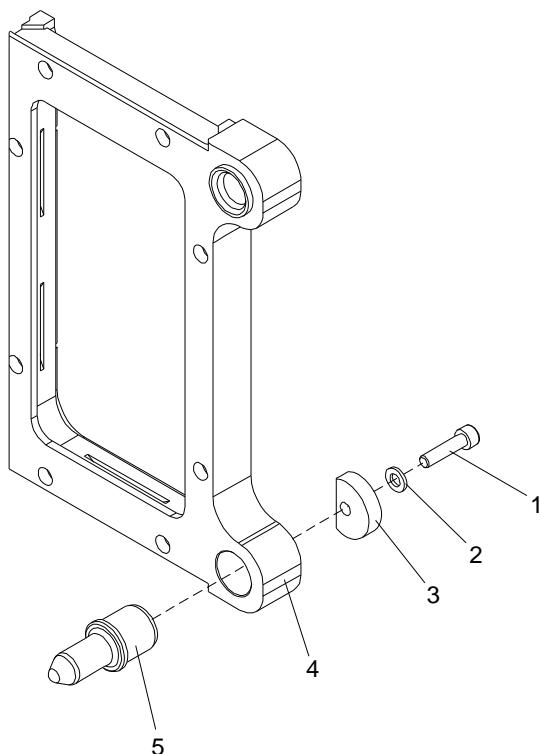

Figure 7-21: Replacement of Guiding Pin
2. Remove the screw (1), washers (2) and (3) and press the guiding pin (5) out of the frame (4). See Figure 7-21.
2. Fit the guiding pin (5) to the Mounting Tool, 1032916. See Figure 7-21.
3. Press the guiding pin (5) into the frame (4) using the Mounting Tool, 1032916. Gently tap the mounting tool with a hammer until the guiding pin is fully pressed into the frame.
4. Mount the washers (3) and (2) and screw (1).